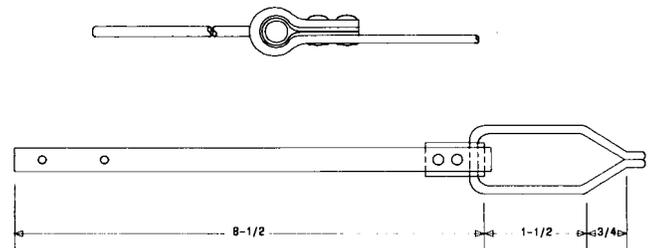

Fig. 2—AT-7710 B Handline Carrier Tool
2.02 **AT-7710 B:** The AT-7710 B handline carrier tool (Fig. 2) is made of a steel wire loop attached to a rawhide strap approximately 8 inches long and slit near the opposite end. The slit in the strap permits attaching the carrier to the body belt.